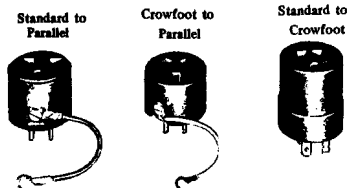

FIGURE 1. Adapters.
- 3.01 The adapters shown in Figure 1 permit connections when the outlet receptacle is not the same type as the plug.